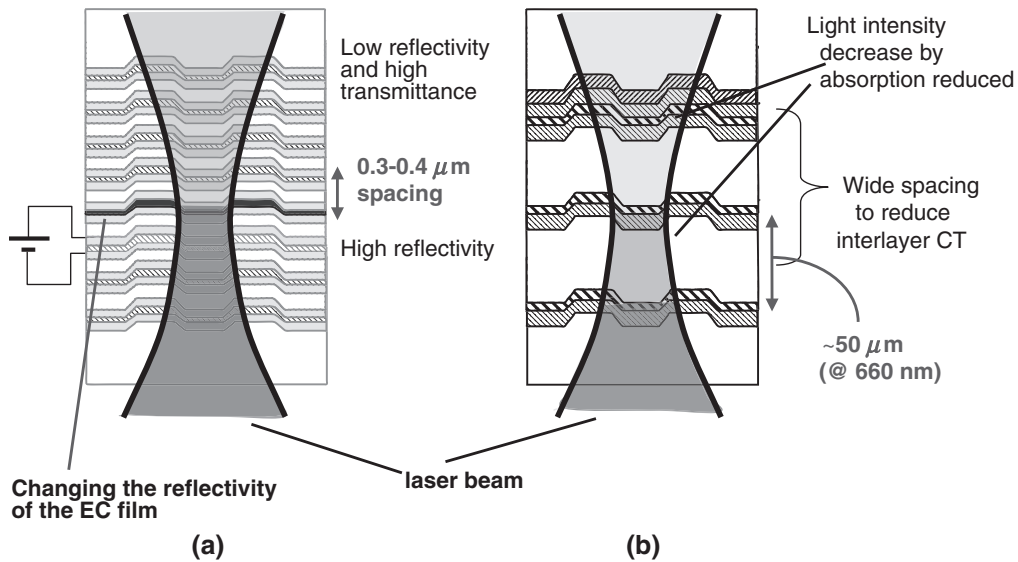

Fig. 1. Concepts of (a) LS-R and (b) conventional multilayer disc.
In a layer-selection-type recordable optical disk (LS-R),⁵⁾ on the other hand, the selected layer has a high reflectivity and the other layers have a low reflectivity and a high transmittance (Fig. 1). The layer is selected by changing the reflectivity of the corresponding electrochromic (EC) film by applying a voltage to it. With this configuration, the interlayer crosstalk is substantially reduced. One advantage of the LS-R is that the width of the interlayer can be less than the depth of focus, so the total thickness of the LS-R can be small and there is no serious aberration when a laser is focused on any of the layers. Another is that it can have a large number of layers without absorption in each layer decreasing the intensity of the laser light. This means that a capacity around 1 TB can be obtained using the conventional optical system.